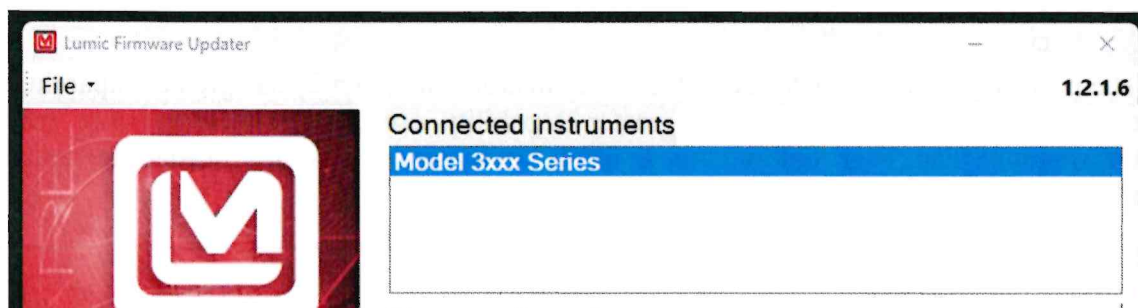

Figure 1 Select Instrument
- (12) Select the **Update** button on the main screen.
- (13) When the instrument reappears on the Lumic Firmware Updater screen, select the “Model 3xxx Series” from the ‘*Connected instruments*’ box (Figure 1 Select Instrument).
- (14) Select **File ▼, Load parameters from a file.**
- (15) Select the parameter file saved in step 9 (the edited file) and select **Open**.